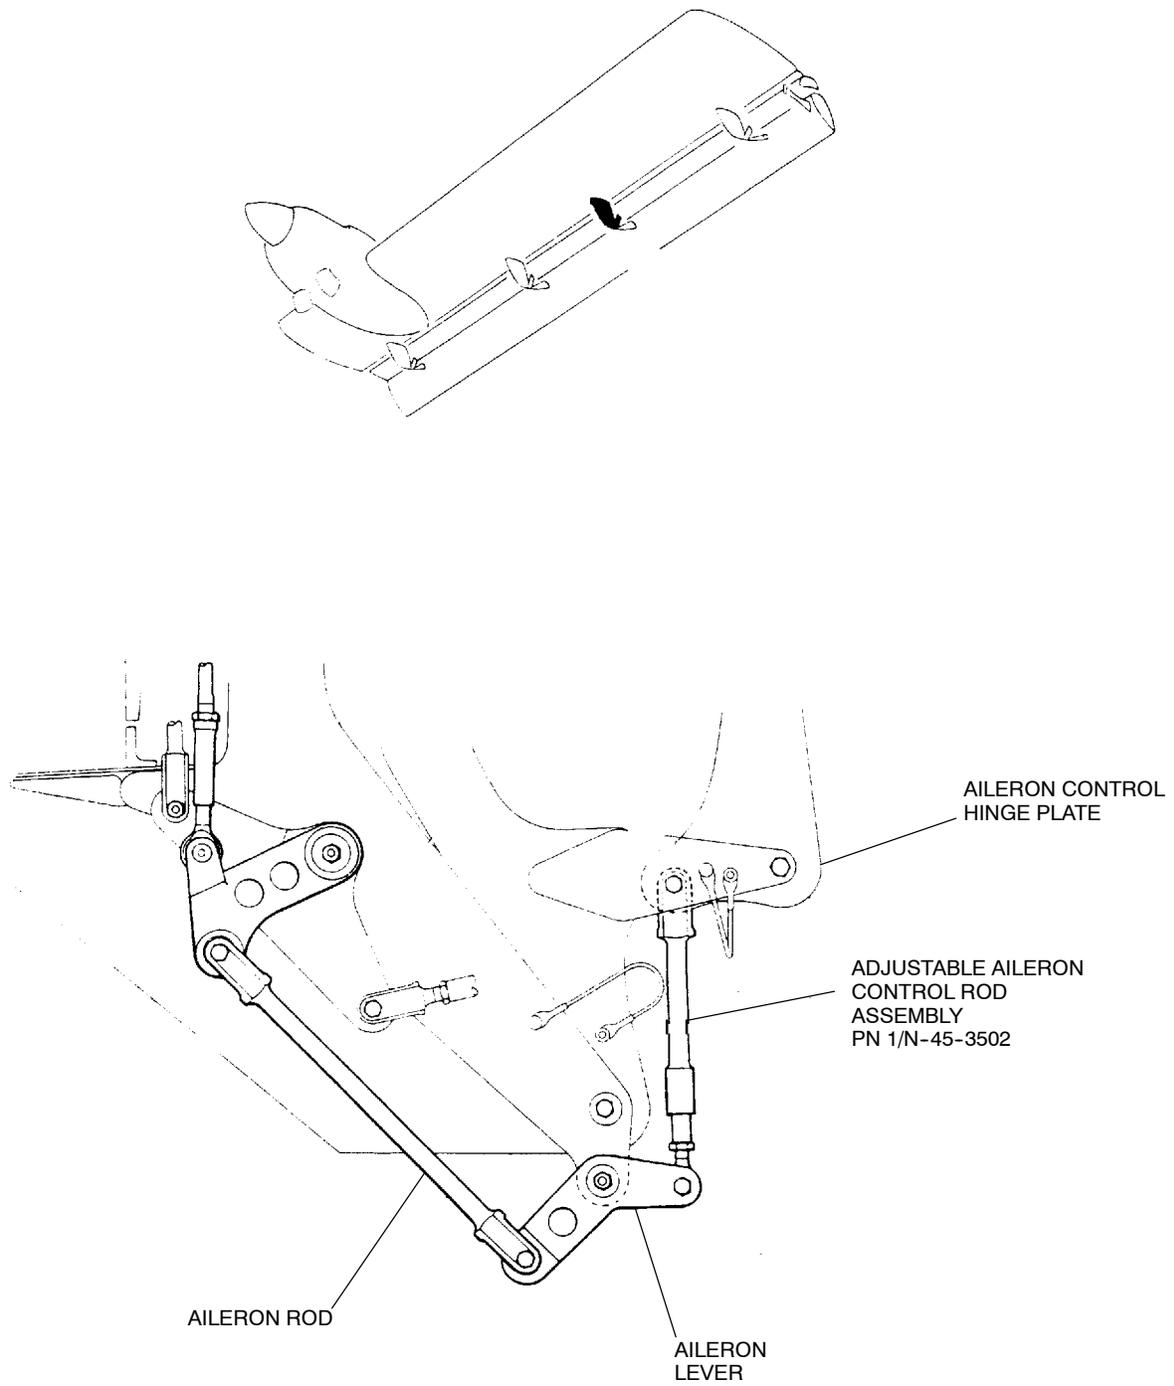

Figure 2 Adjustable Aileron Control Rod- WSTA 172.75
- (1) Remove the aileron control rod assemblies PN 1/N-45-350 (Ref Fig 2) (Ref MM 27-10-10 Page 201 and IPC 27-10-01, Fig 4, Item 1A). Discard the self locking nuts but retain all other attaching parts.